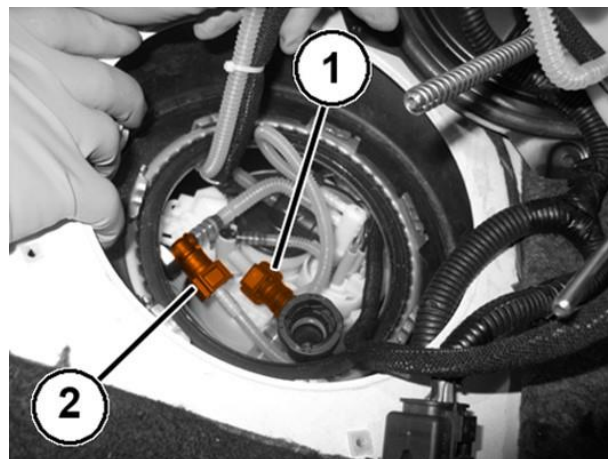

Figure 6 – Transfer Chamber Suction Pipe Coupling
15. Disconnect the quick coupling (1) for the transfer chamber suction pipe (Figure 6).
16. Disconnect the quick coupling (2) for the additional main chamber suction pipe (Figure 6).